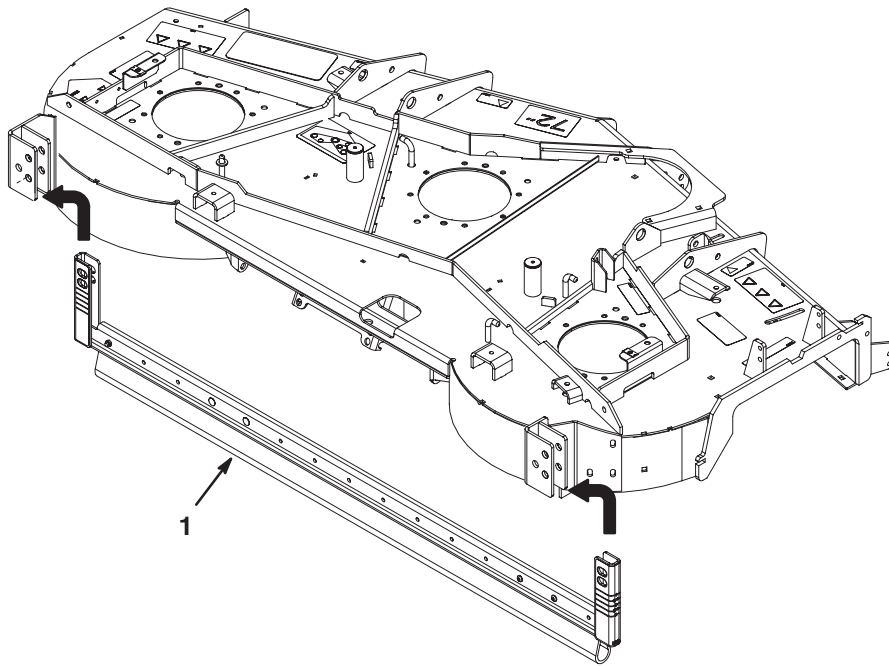

Figure 3
3. Slide the striper bar assembly under the cutting unit. From the right side of the brackets, raise the bar and slide it into the openings in the bracket (Fig. 3).